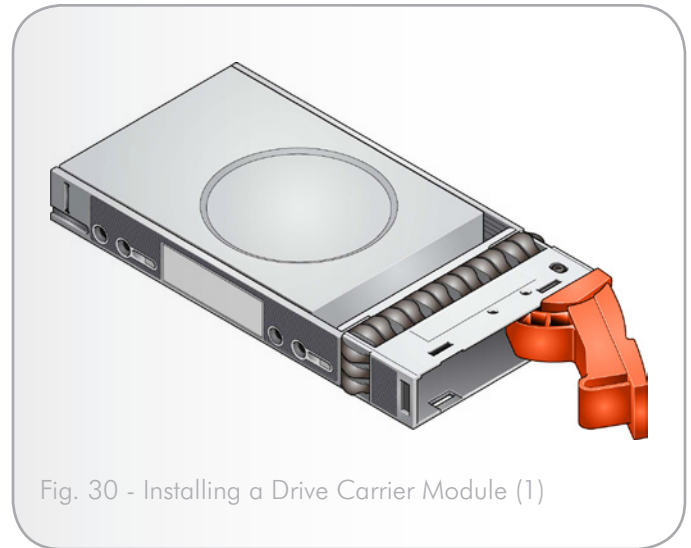

Fig. 30 - Installing a Drive Carrier Module (1)
1. Release the drive carrier handle, by depressing the latch in the handle (see Fig. 30).